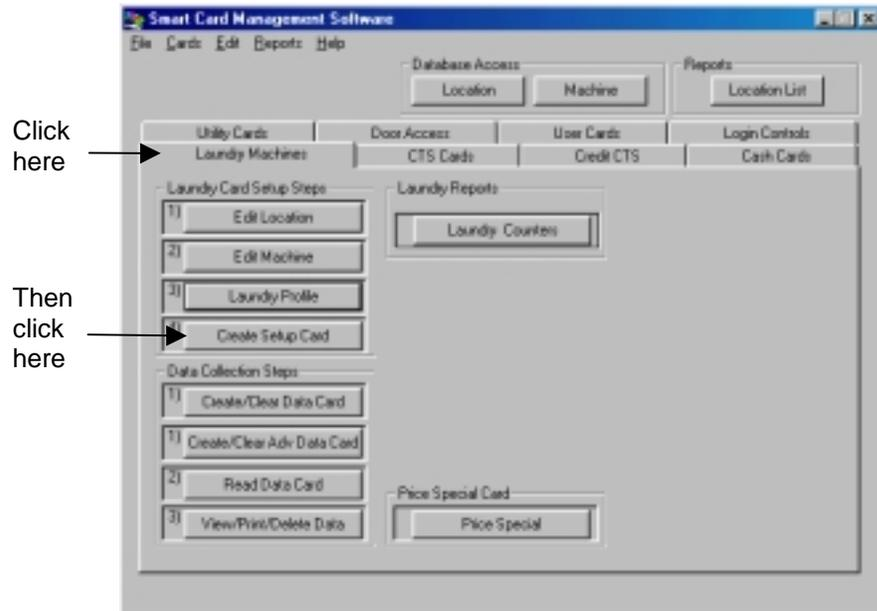

Figure 3.21 Creating a Laundry Setup Card
1. Click the **Laundry Machines** tab in the main screen (Figure 3.21).
2. Click the **Create Setup Card** button (Figure 3.21).